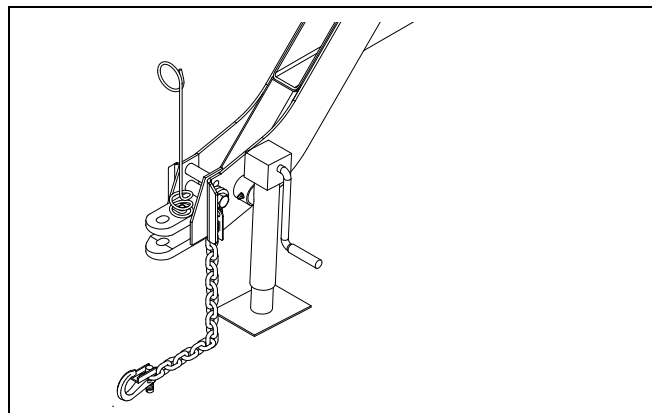
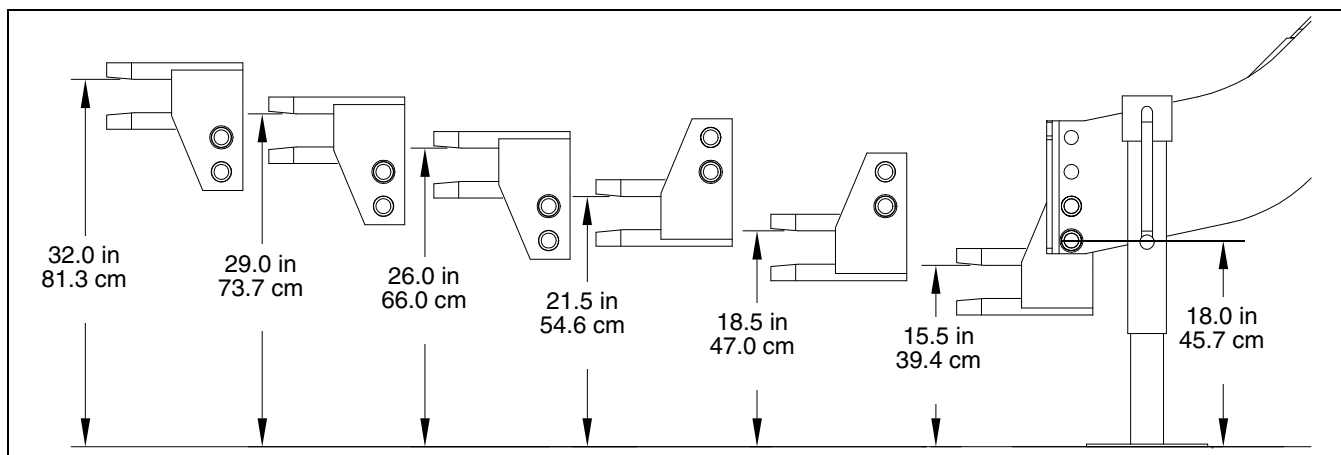

Figure 21
Figure 22
**Refer to Figure 21 and Figure 22**
3. Bolt drill hitch onto drill tongue to match your tractor-drawbar height. You can turn the hitch over for a total of six different hitch heights. Always have two (2) bolts in two holes of both tongue and hitch.